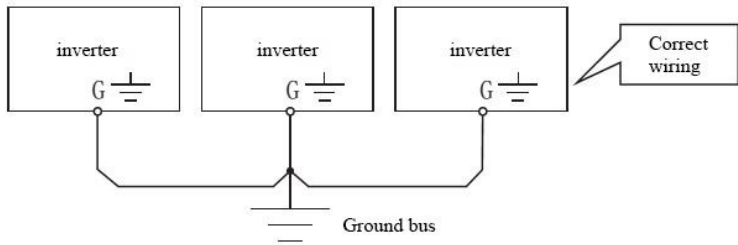

figure 1-1
- For safety reasons, the ground terminal of the frequency converter must be reliably grounded. In order to avoid the influence of ground common impedance interference, the grounding of multiple frequency converters should use a point grounding method, as shown in Figure 1-1.